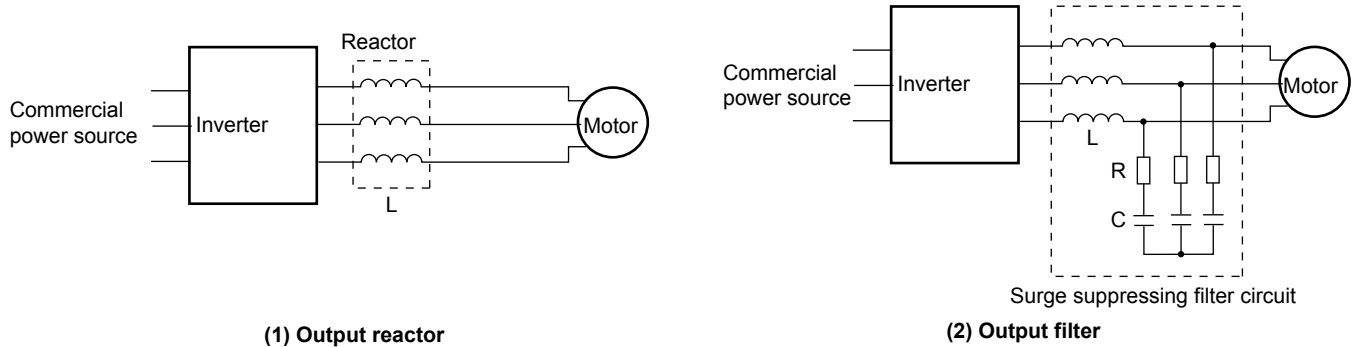

Fig. 4 Method to suppress surge voltage
If wiring length is relatively short the surge voltages can be suppressed by reducing the voltage rising ( $dv/dt$ ) with installation of an AC reactor on the output side of the inverter. (Refer to Fig. 4 (1)) However, if the wiring length becomes long, suppressing the peak voltage due to surge voltage may be difficult.
Installing a filter on the output side of the inverter allows a peak value of the motor terminal voltage to be reduced. (Refer to Fig. 4 (2))